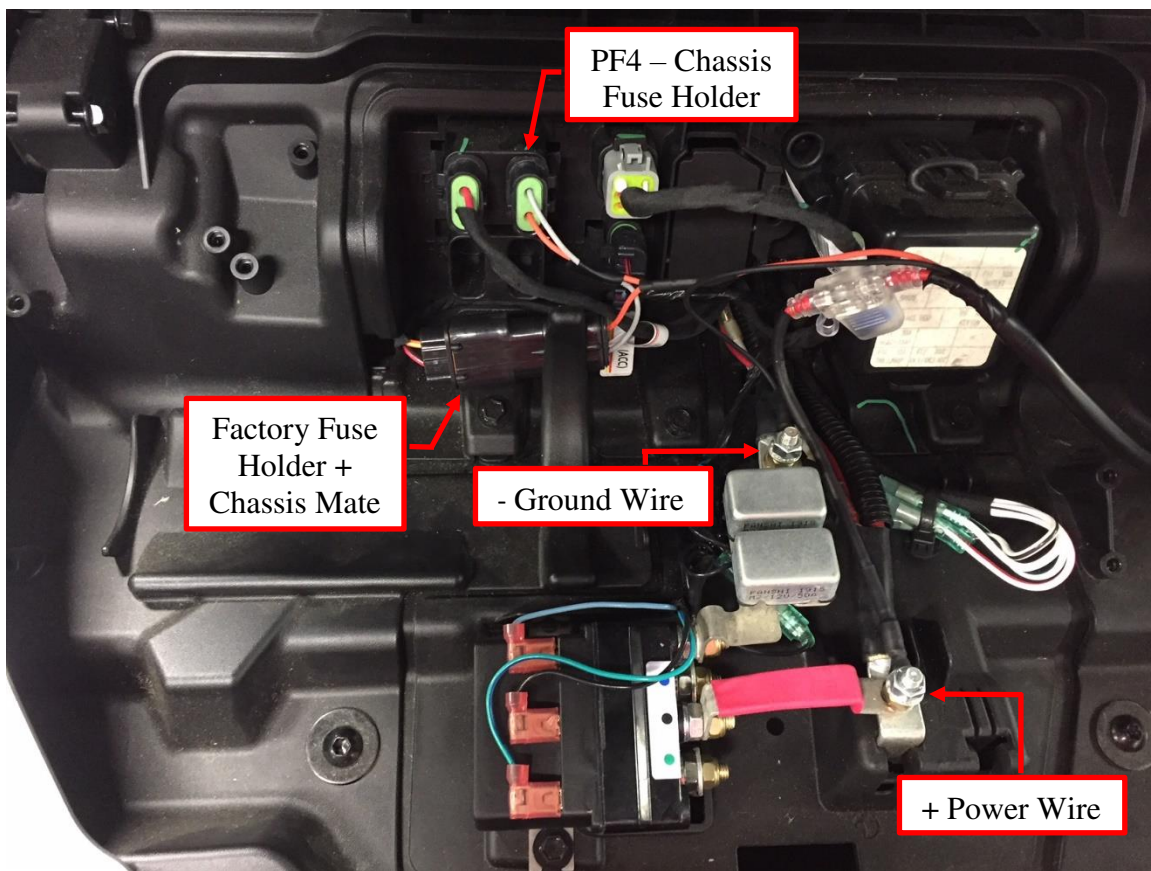

Figure 17: Attach the chassis harness and power wires.
12. Place the chassis connector with the fuse back into port PF4. Connect the factory fuse holder with the mating chassis connector. Remove the battery cover. Connect the red power wire to the positive terminal of the battery. Connect the black ground wire to the negative terminal of the battery. Use the supplied M6 x 1.0 nuts to clamp the cables on top of the existing battery cables. See Figure 17.